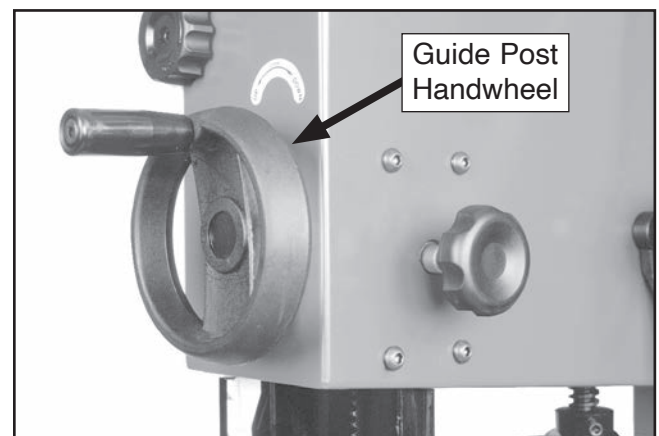

Figure 24. Guide post handwheel installed.
1. Secure guide post handwheel onto handwheel shaft flat with included cap screw (see **Figure 24**).